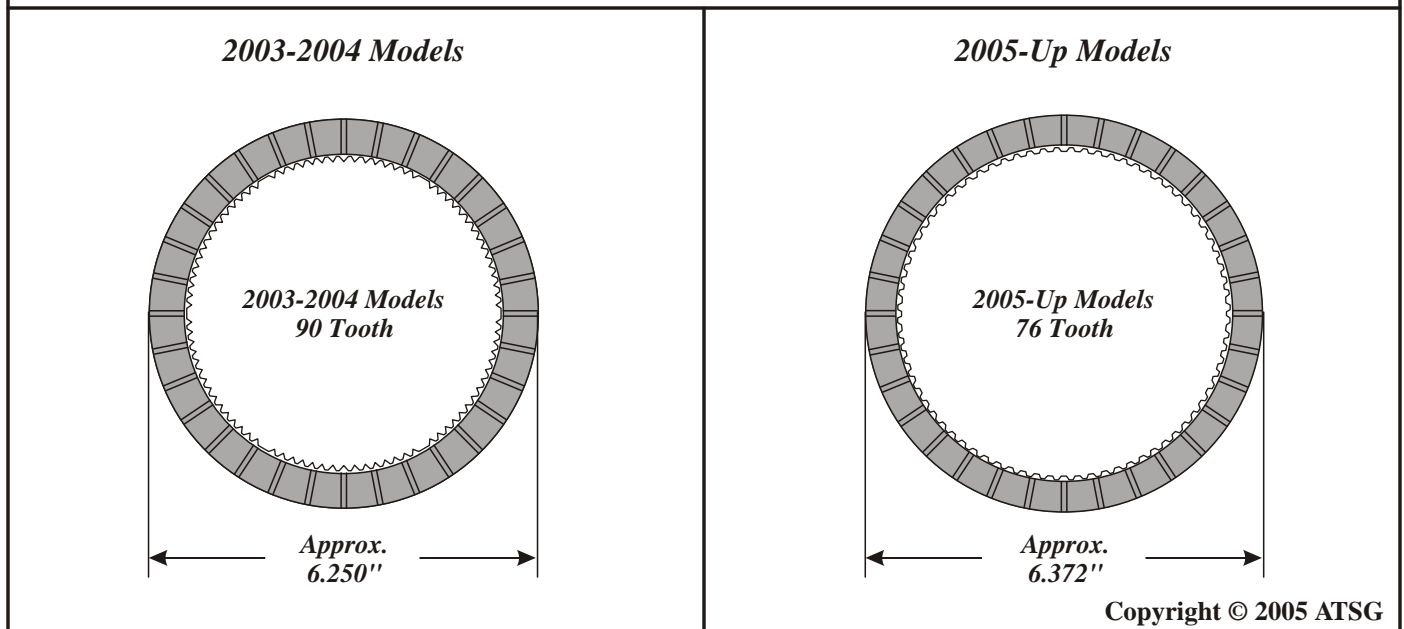

Figure 3
- (7) FORWARD CLUTCH FRICTION PLATES - The inside and outside diameters increased to accommodate the new design planetary carrier, and as a result the tooth count also changed, as shown in Figure 3.